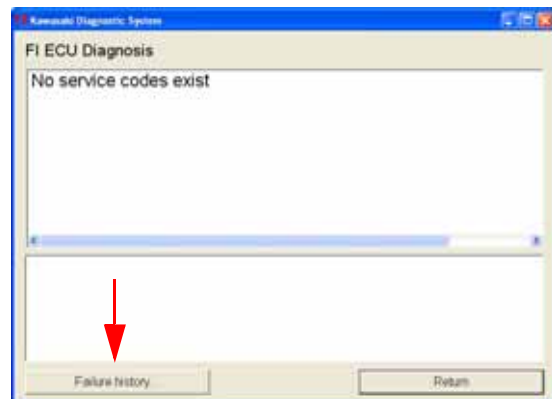

Fig. 6-15 FI ECU Diagnosis
- o Select **Failure history** (Fig. 6-15) to see previous problems.